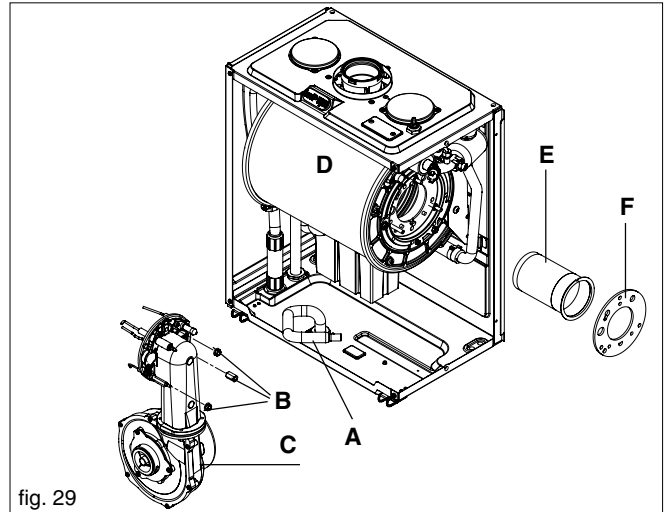

fig. 29
(D). Disconnect the electrode leads and ancillary wiring from their respective connectors. Remove the retaining screws (A, fig. 29) for sensing electrode and remove. Remove the retaining nut (C, fig. 29) for condense sensor (D, fig. 29) and remove. Gently ease the fan assembly out of its location. Once the assembly has been removed, the burner (E) can be withdrawn from the heat engine. Ensure the seal (F) is in good condition, taking care to ensure it is replaced correctly. Replace in the reverse order.
Carry out component removal procedure as described in 6.4. Unclip and remove the three air chamber covers (front, LH, RH sides). Disconnect all the wiring connections. Fig. 29: Slacken the gas pipe (A) at the air box connection and swing/rotate of the fan assembly. Disconnect the flow (B), return (C) and condense connections on the heat exchanger. Locate and remove the 4-screws that secure the heat exchanger to the combustion chamber (D). Move the heat exchanger to the right and disconnect it from the flue collector (E). The heat exchanger can now be lifted up and withdrawn from the appliance.